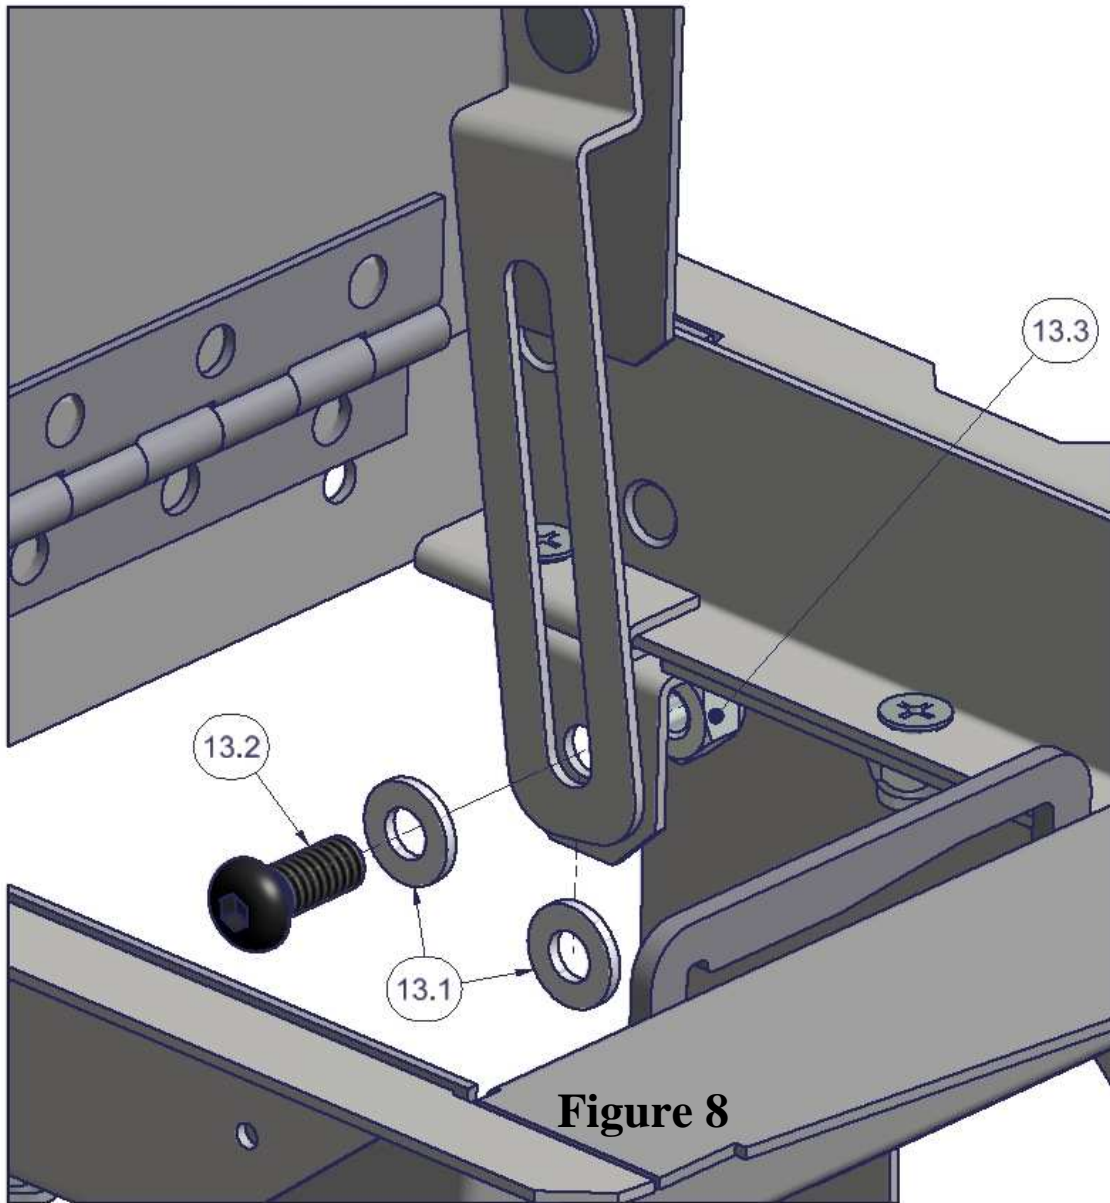

Figure 8
11. Assemble the lid support hardware as shown in Figure 8, using the #13.2 Cap Screw, #13.3 Nylock Nut, and (2) #13.1 Nylon Washers. Tighten the hardware in small increments so that the lid remains supported as you prefer (normally self-supporting at a 45-degree lid angle).
NOTE: Second nylon washer (#13.1 shown below assembly in Figure 8) slips between moving slotted part, and stationary body.